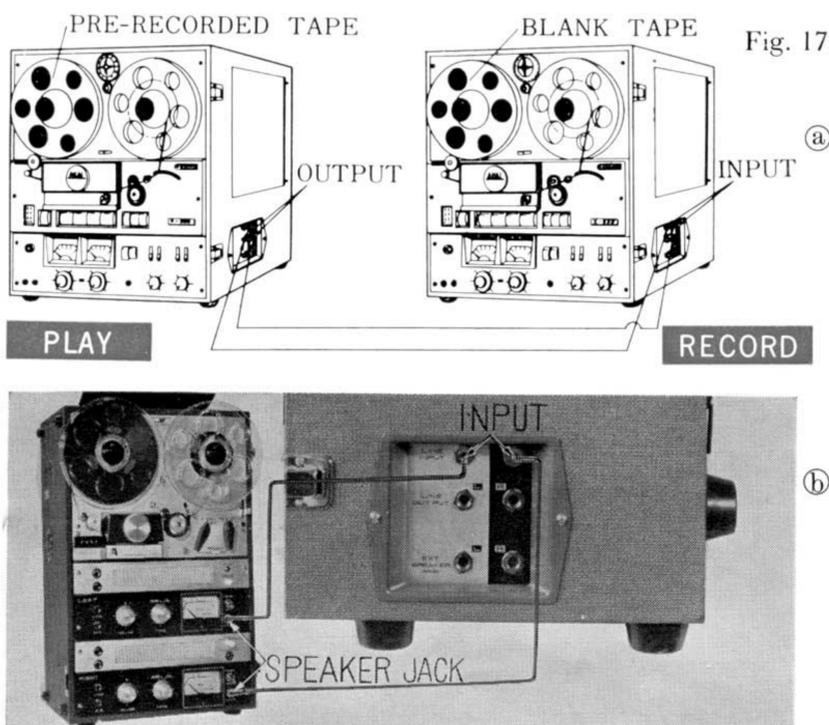

Fig. 17 14. RECORDING FROM ANOTHER TAPE RECORDER
If another X-355 is used, connect the LINE OUTPUT JACKS ⑤③, ⑤④ of the playback machine to the LINE INPUT JACKS ⑤①, ⑤② of the recording machine in step (G) of the recording procedure (Figure 17 a).
If one of the AKAI M-series recorders is used as a playback machine, connect its speaker jacks to the LINE INPUT JACKS ⑤①, ⑤② of the X-355 in step (G) of the recording procedure (Figure 17 b).